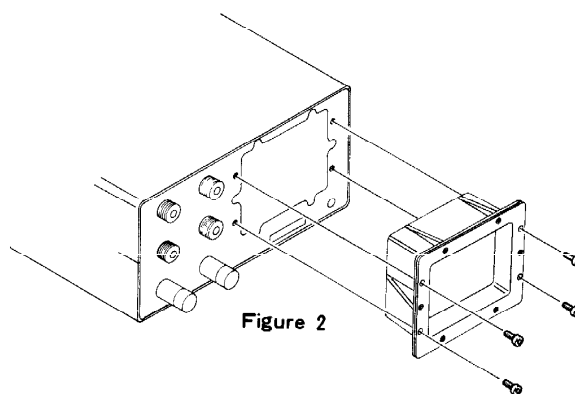

Figure 2
2. Insert the FAS-1-4R module into the FC-102, and install the four mounting screws as shown in Figure 2.